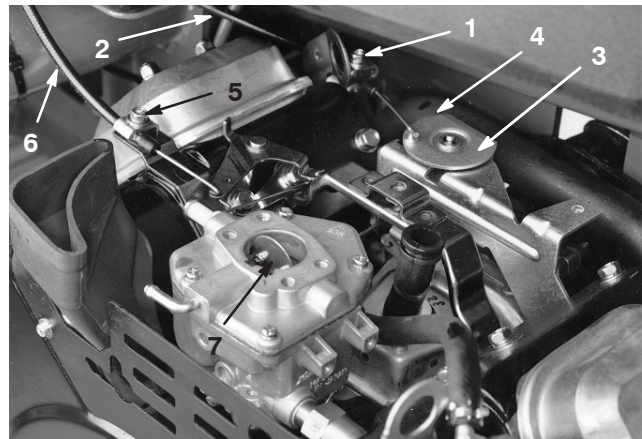

Figure 48
1. Loosen the cable clamp screw securing the cable to the engine (Fig. 48).
3. Pull firmly on the throttle cable until the back of the swivel contacts the stop (Fig. 48).
- Pull firmly on the choke cable until the choke butterfly is completely closed, then tighten the cable clamp screw (Fig. 48).